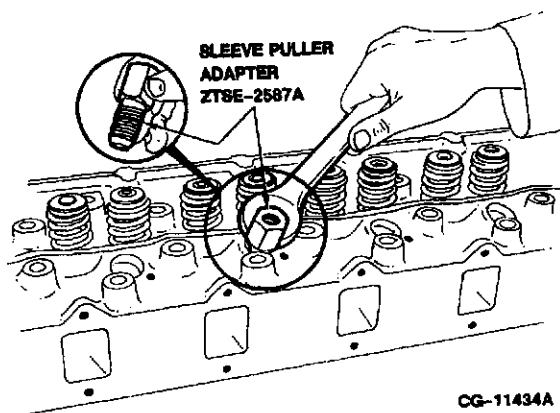

Figure 4.20. Install Nozzle Sleeve Puller Adapter into Sleeve
1. Insert the nozzle sleeve puller adapter ZTSE-2587A into the sleeve to be removed. Refer to Figure 4.20.